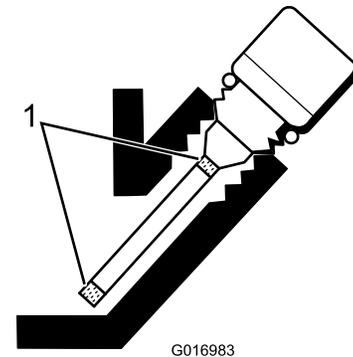

Figure 23
5. If the level is low, add only enough oil to raise the level until it is between the hatch marks on the gauge (Figure 23). **Do not overfill.**